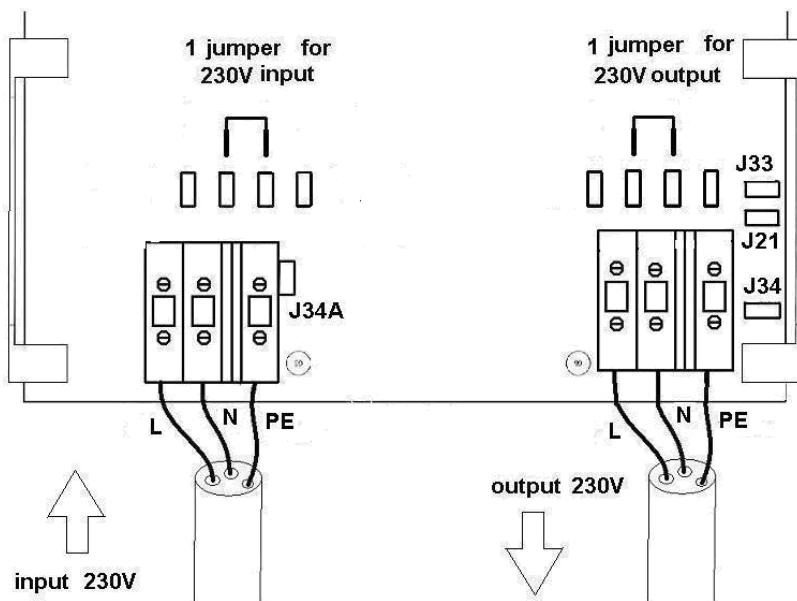

Figure 2: Jumper settings for 230/240V input and/or output
2.2.2 Other models: for 230/240V input and/or output, connect the push-on jumpers as shown in fig 2.